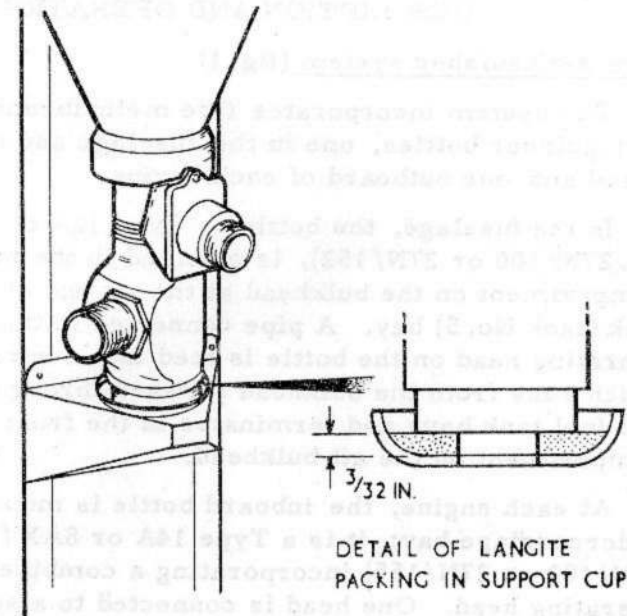

Fig. 2. Fitting single head extinguisher.
(1) Remove the wing undersurface access panel Sect. 2, Chap. 4, Fig. 2.
(2) Disconnect the bonding lead (8) between the recuperator head and the clip supporting the bleed pipe (7).
(3) Disconnect the main fuel pipe at the union (10) on the recuperator head, and at the union (1) at the fuel cock on rib 2A, and remove the pipe.
(4) Disconnect the gland drain pipe at the recuperator head (9) and at the engine rib, and remove the pipe.
(5) Disconnect the fuel bleed pipe at the recuperator (5) and the supporting clip (7) and at the union on rib 2A (6) and remove the bleed pipe.
(6) Disconnect the air pressure pipe at the pressure reducing valve (12) and the recuperator air pressure inlet (3) and remove the pipe.
(7) Disconnect the air balance pipe at the recuperator (13) and at the T junction (2) and remove the pipe.
13. When fitting a Type 12A or Type 4AX extinguisher, it is essential that the head of the junction box fits securely into the cup of the support disc of the attachment bracket. To ensure that the head of the junction box is correctly housed in the support cup, the thickness of the langite packing in the box of the cup must not be more than  $3/32$  in. (fig. 2) and the extinguisher must be held firmly in position whilst the attachment straps are being fitted and tightened. The following procedure should be adopted:-